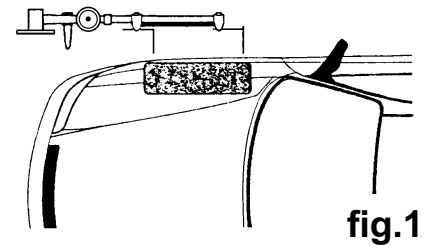

fig.1
- 4.2 Position the laser unit against the offside front wheel ( see fig.1 ) and adjust the height of the contact bars by fixing them in which ever of the five preset positions is closest to a horizontal line through the centre of the wheel. At the same time adjust the side to side positioning of the contact bars so that they touch the sidewall of the tyre either side of the rim. Position the tips of the contact bars to touch the centre of the sidewalls at the greatest point of curvature. Avoid any ribs or raised lettering on the tyre side wall.